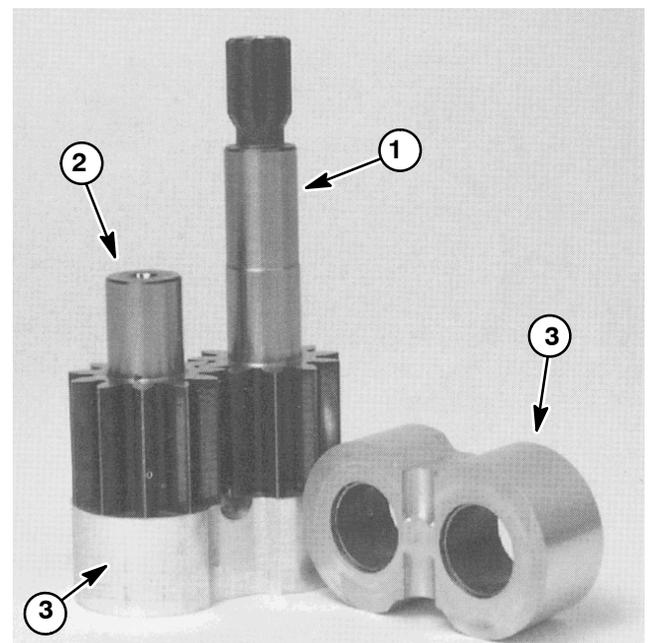

Figure 61
3. Inspect drive gear, idler gear and bearing blocks (Fig. 61) for the following: